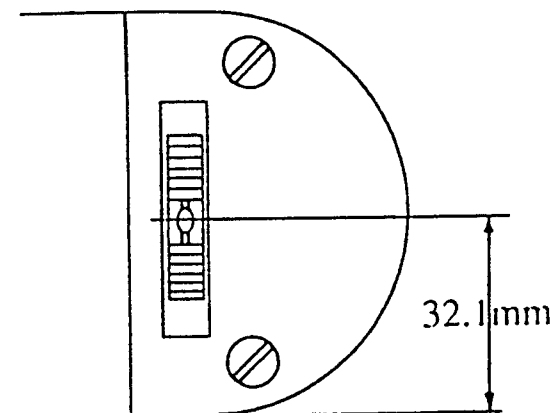

Fig.14
(Fig.14)
4. Adjust to be 32.1mm from the edge of the needle plate to the center of the needle hole on the feed dog. (Fig.14)